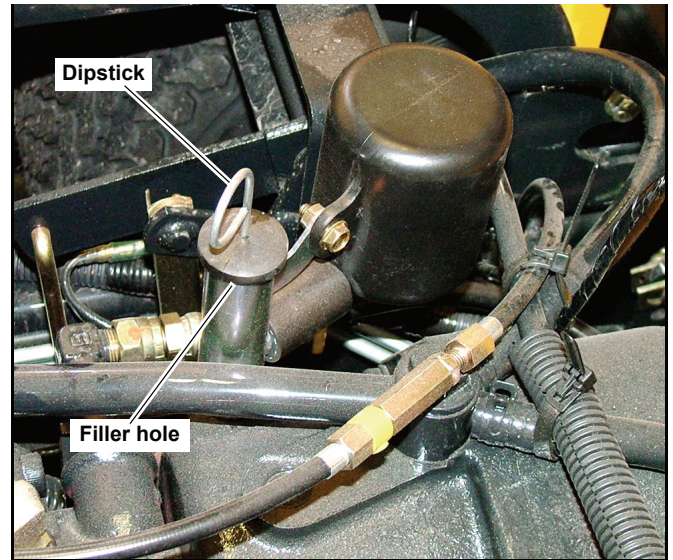

Figure 4-22
1. With the tractor standing level and the engine off, check the oil level with the dipstick. Figure 4-22